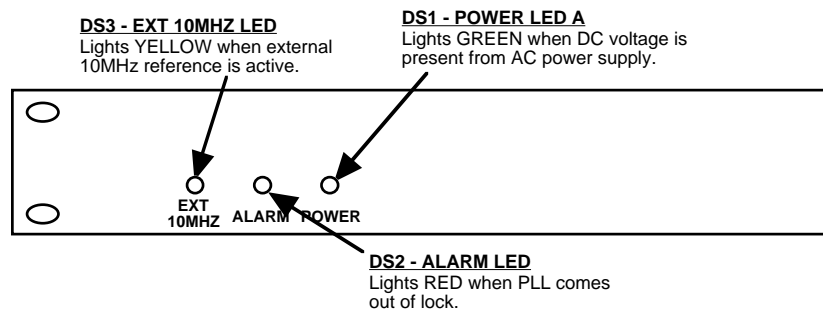

FIGURE 2.2 2116-125 Front Panel Controls and Indicators
Figure 2.2 shows the front panel indicators.
4. Be sure DS1 (green, DC Power) is on and DS2 (red, Alarm) is off (Figure 2.2).
6. If EXT is selected or AUTO is selected and there is a 10MHz, 3 dBm signal at J2, check that DS3 (yellow, Ext 10MHz) is on (Figure 2.2).